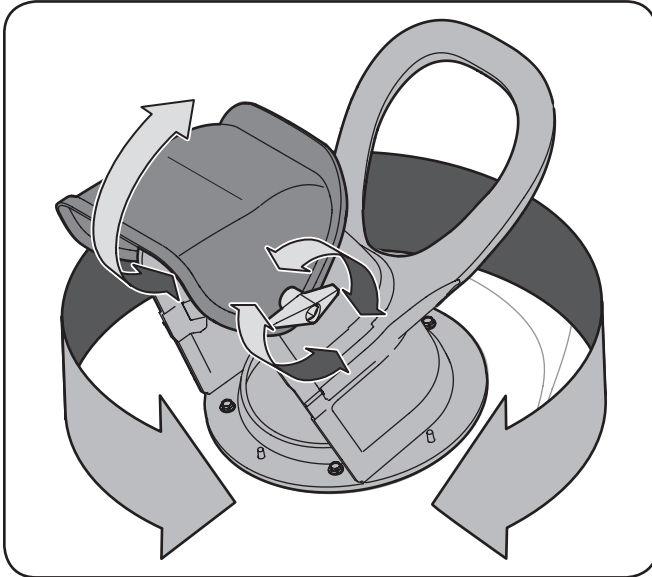

Figure 3-3
2. Position the chute assembly opening by using the chute handle to throw the snow in the desired direction. See Fig. 3-3.